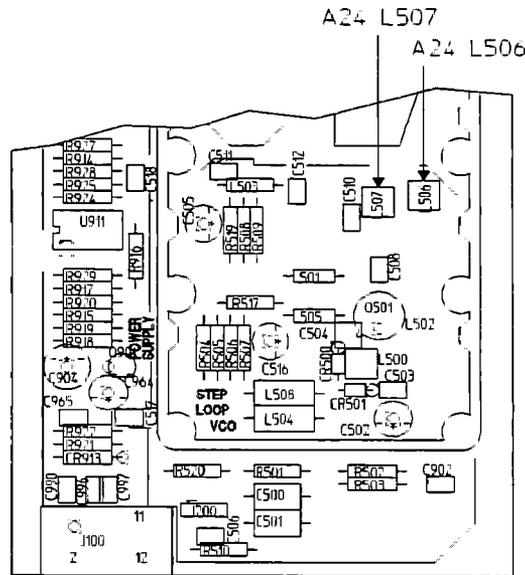

Figure 1-6. A24 Step VCO Component Locator
d. Set the power switch to ON (1), then press the following keys:
e. Through the holes in the shield can, alternately adjust A24 L506 and L507 (see figure 1-6) for a flatness (maximum amplitude minus minimum amplitude) of less than 3 dB(p-p).